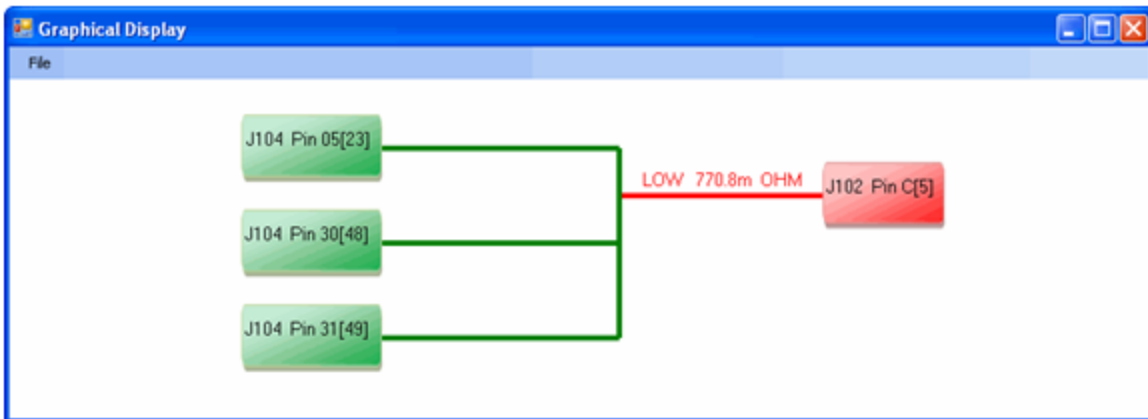

Figure 2. TestExecutive Graphical Display for string 1 showing a short circuit.
Click the Graphical Display – 1 link to generate the following TestExecutive Graphical Display for the first string (Figure 2).
- Correct connections within the circuit are displayed in green while faults are highlighted in red. Figure 2 above shows the representation of a short to the string.